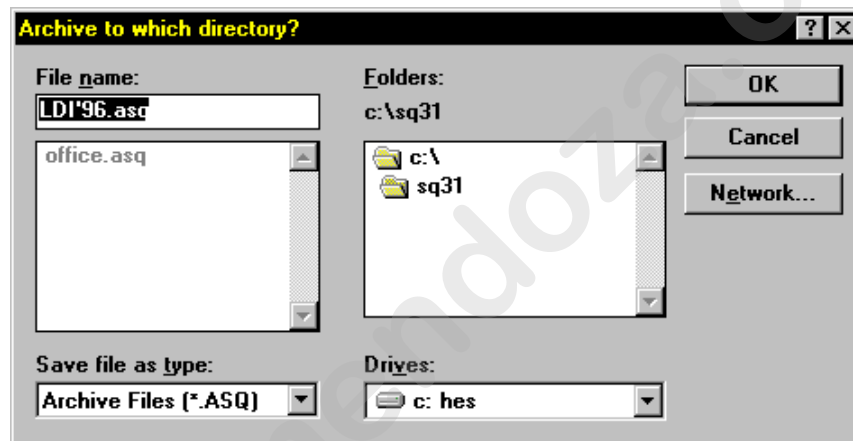

Figure 9.5. Archive To Which Directory Dialogue Box
1. Select **Archive...** from the **File** drop-down menu. This will bring up the **Archive to which directory?** dialogue box. Refer to Figure 9.5.